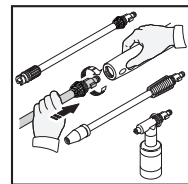

fig. 4
- While spray gun is locked, insert turbo lance, adjustable spray lance, or detergent bottle directly into the end of the spray gun by inserting, pushing together, and turning clockwise simultaneously (fig. 4). To remove, push together and turn counterclockwise.